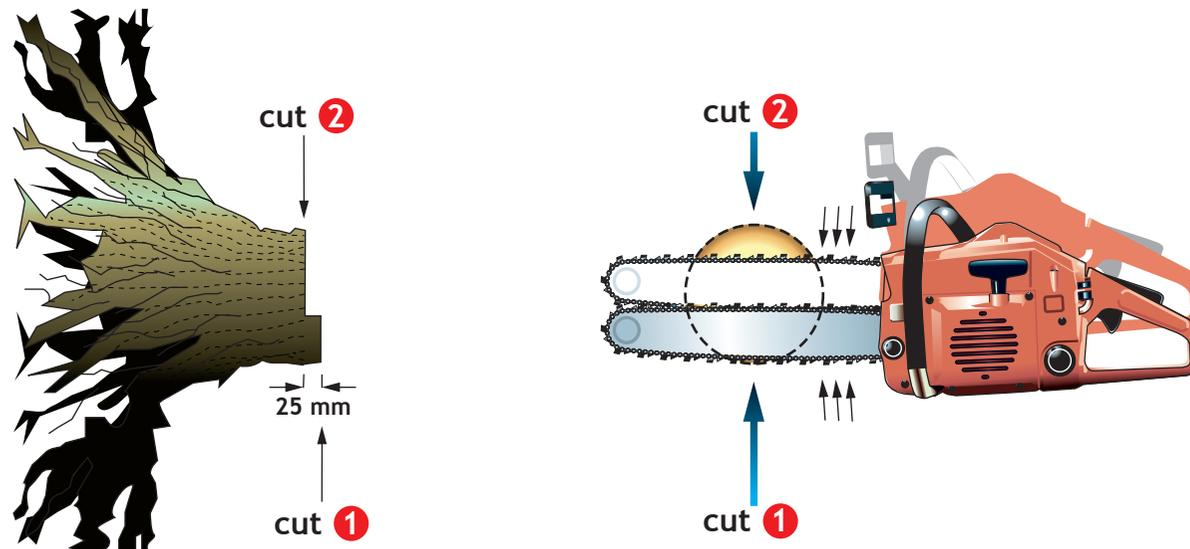

Figure 1 Severing cuts
- 22 When there is a danger that the stem may spring upwards, make the final severing cut into the tension wood at least 25 mm away from the first (compression) cut and into the part of the stem that is least likely to move (see Figure 1). A series of cuts may be made on the compression side to relieve excessive tension in the stem.